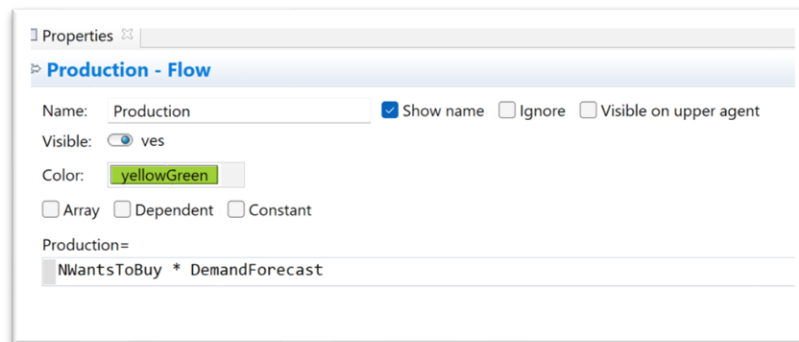

Figure 19. Production Flow Properties.
Step 3c. Click the first flow and enter the info in figure 19 to indicate that *Production* is the product of the variable “NWantsToBuy” and the *parameter* “DemandForecast”. Click the first stock (square block we added earlier), enter Name “FinishedGoods”, Color “Yellow”, and Initial Value “0”. Click the second *flow* and enter Name “Shipping”, Color “dodgerBlue” and equation $\text{Shipping} = \text{FinishedGoods} / \text{DeliveryPeriod}$. Then, double-click *link* and connect the *Finished Goods Stock* block to the *Shipping* hourglass *flow* in the graphics (Note: The equation completes itself here once you attach these and will change from just “Production” to “Production-Shipping” to show that they are now linked. This *Stock* represents the number of toys finished by production that are ready for shipping). Finally, click the last *stock* and enter the following properties: Name “Store”, Color “Cyan”, Initial Value